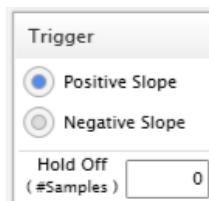

Figure I-6 Oscilloscope Control: Trigger Configuration
The trigger condition is configured by specifying the trigger source and level as previously described in FI-4(8) and by selecting the type of signal transition as shown in Figure I-6.